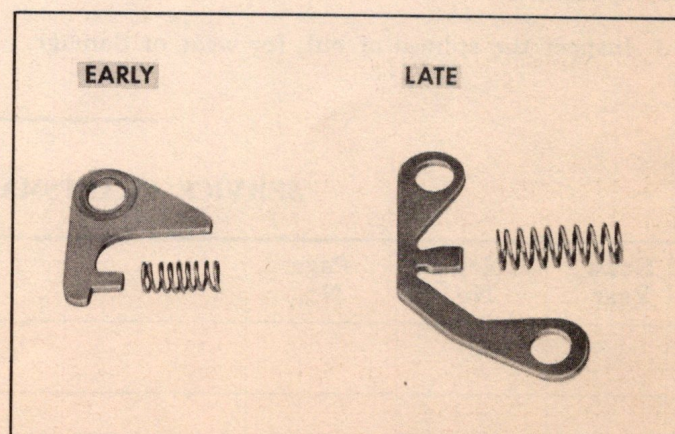

Fig. 208—Parking Blocker Piston Spring and Stop (Early and Late)
8. Inspect parking blocker piston release spring. Early type (Fig. 208) should have a free length of $\frac{39}{64}$ ". Late type spring should have free length of $1\frac{1}{32}$ ".